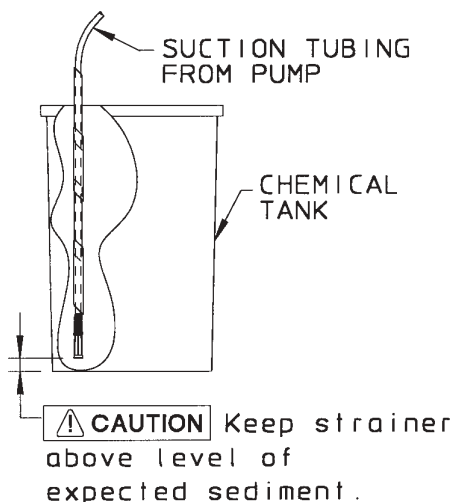

Figure 2.4
- When pump is shelf-mounted or top-mounted on tank, suction tubing should be kept as short as possible. Pumps mounted on or above a tank should use the tube wand to ensure that the foot valve/strainer remains in a vertical position. The vertical position is critical to proper foot valve performance. To assemble, alternating large and small diameter sections are inserted one to two inches and twisted to lock in place. The tubes are telescoped to varying lengths to match the tank (maximum length is 36 inches). Feed suction tubing through tube wand until it extends beyond the end of the tube wand. **Do not kink suction tubing.** Attach foot valve/strainer to suction tubing. Install suction tubing with tube wand and foot valve/strainer into tank. Adjust length of suction tubing to hold foot valve/strainer approximately two inches from bottom of tank (see Figure 2.4). Connect suction tubing to suction side of pump.